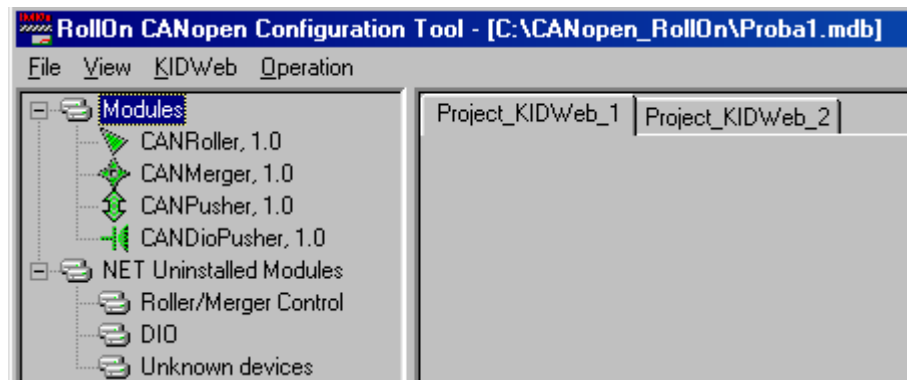

Fig. 4.6
- Click Add Project item – Project_KIDWeb_2 appears as shown in Fig.4.6.
The respective modules are taken from the Modules' Tree (refer to Fig. 4.6).